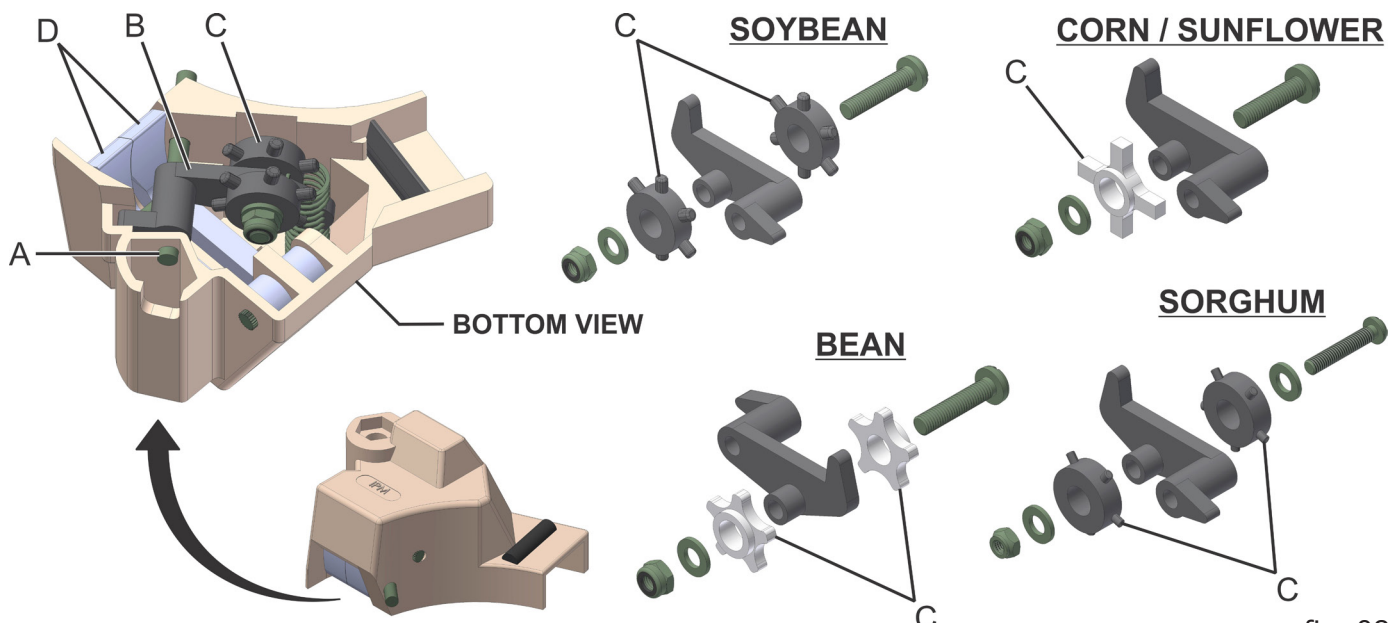

fig. 08
- 2- Remove the pin (A) (fig. 08) securing the articulator (B) of roller (C);
- 3- Remove the articulator (B), and change the roller model if necessary;
- 4- Note the roller model (C) to be used. It should be compatible with the perforation of the disc to be used, with single or double row.
Observe upon assembling the seed hopper if the scraper triggers (D) (fig. 08) are free.